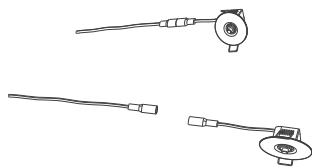

Figure 3-1
1. Unplug the quick connector of the EM Inverter Ceiling Mount Indicator (Figure 3-1).